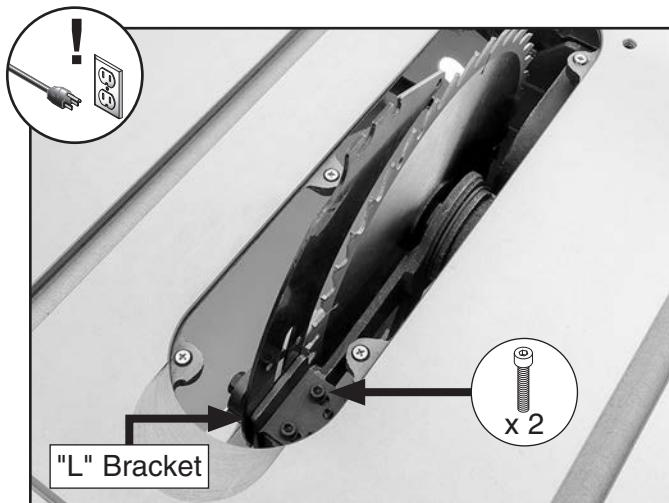

Figure 123. Cap screws for adjusting spreader/riving knife position.
3. Loosen (2) cap screws on "L" bracket (see **Figure 123**), then slide spreader/riving knife as needed to align with blade.